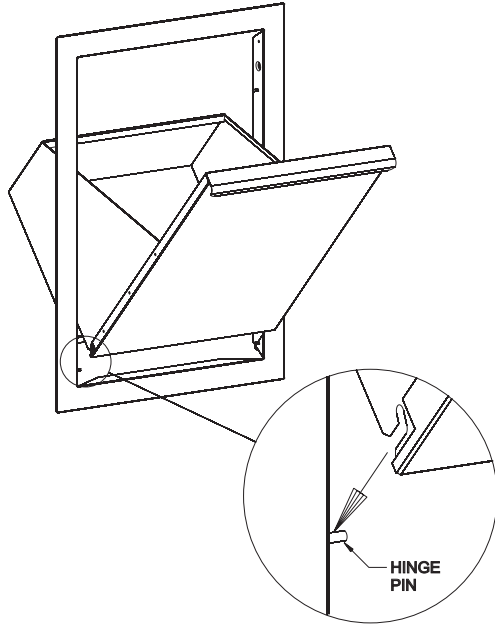

Figure 4
4. Lower the BBA Door Assembly onto the two hinge pins inside the lower left and right sides of the BBA Frame. See Figure 4 .